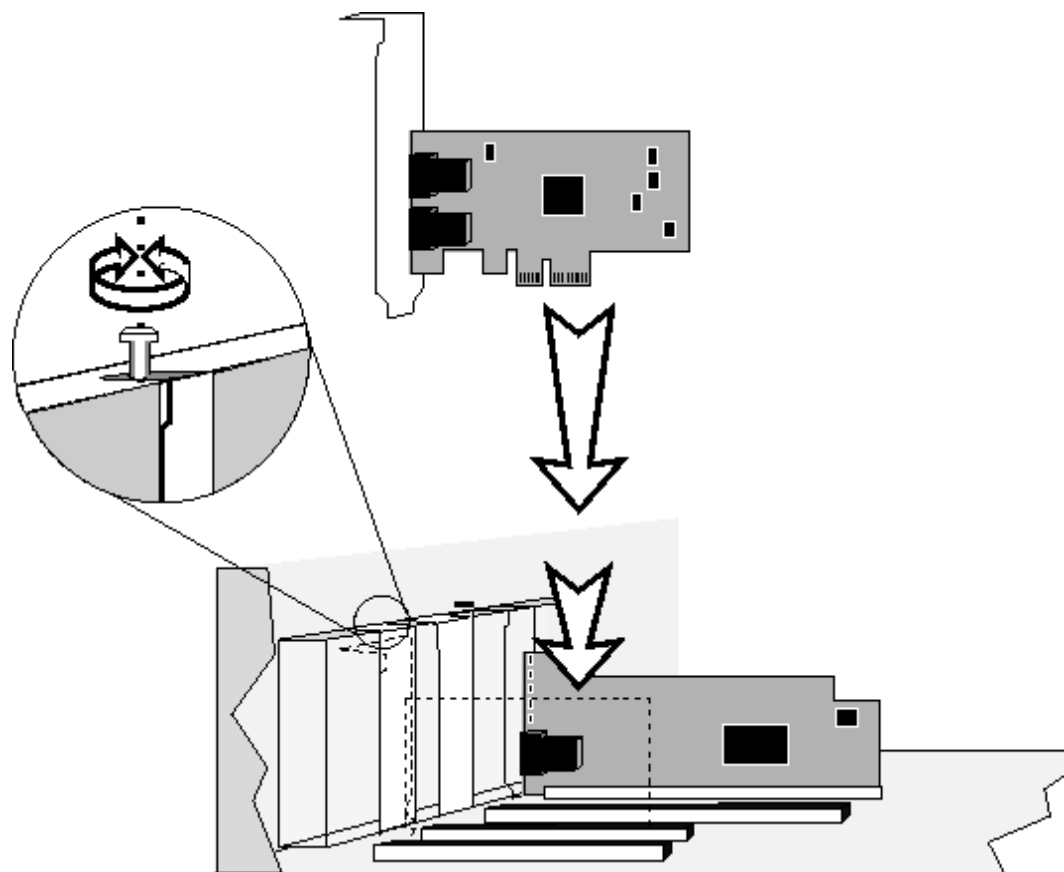

Figure 1. Insertion of the adapter into the computer
8. Insert the network adapter into the PCI Express resp. PCI/PCI-X slot as described in your computer manual (also see figure 1 “Insertion of the adapter into the computer”).